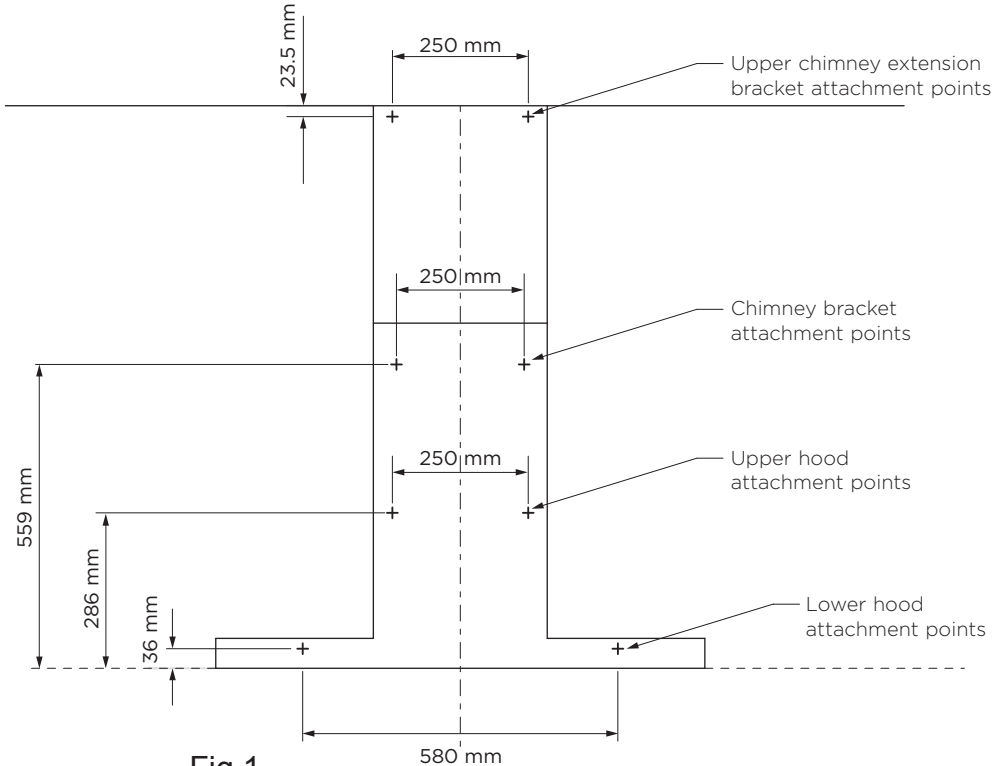

Fig.1
- Mark the location for flue cover wall mounting brackets, rangehood mounting points and anti-tilt fixing points above the rangehood using the base as the reference point (Fig. 1).